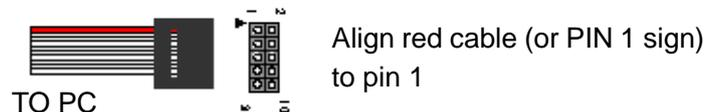

Fig. 1 ByteBlaster II (or USB Blaster) connection
3. Connect the ByteBlaster II 10-pin female plug to CN1(Card address: X.0, 1.5) (Fig. 1)